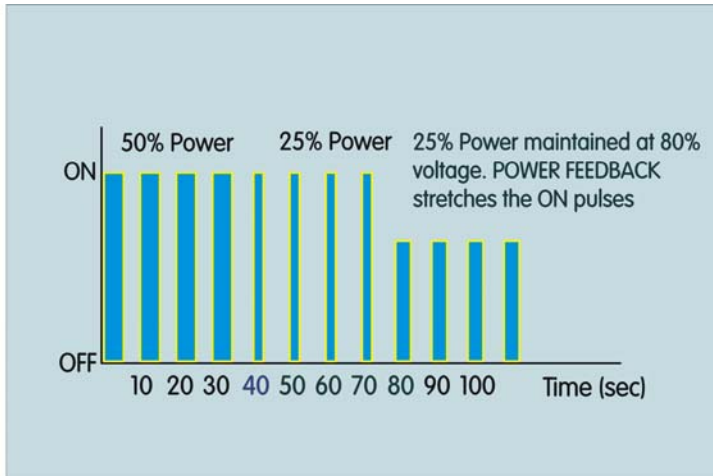

Fig 2. Correction for Line Voltage Variation
- Use a controller with a time proportioning output having a percentage ON time that varies as $1/V^2$ (sometimes called **power feedback** though it is an example of **feedforward**. See **Fig 2**.)